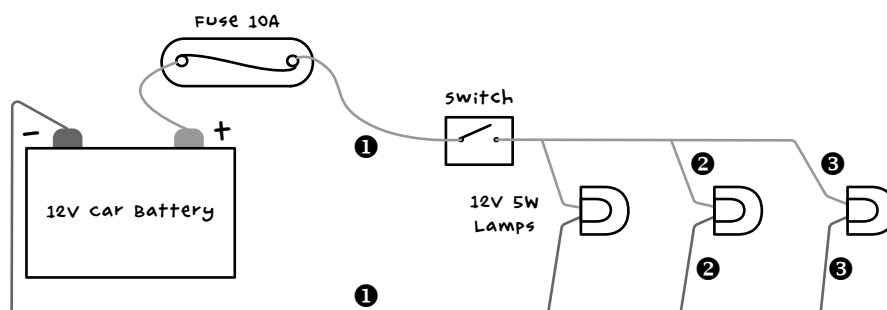

FIGURE 3-5: 12V LIGHTING SYSTEM
The LED lights for this project are wired in parallel (Figure 3-5). In this arrangement, each of the lights gets the full 12V from the battery, and if one of the lights fails for any reason, the other lights will keep working.
If you're using a fairly small number of low-power LED light bulbs (up to five, at up to 5W each), then double-core bell wire will be just fine. Cable designed for speakers is also a good choice. In my design (Figure 3-5), I used three bulbs, so I cut three lengths of cable, stripping half an inch (15 mm) of the insulation off the ends.
The first of these leads (labeled ❶ in Figure 3-5) will go from the battery's positive terminal to the switch and then to the first lamp. The second length will continue on to the second lamp (❷), and the final lead (❸) will go to the last lamp.